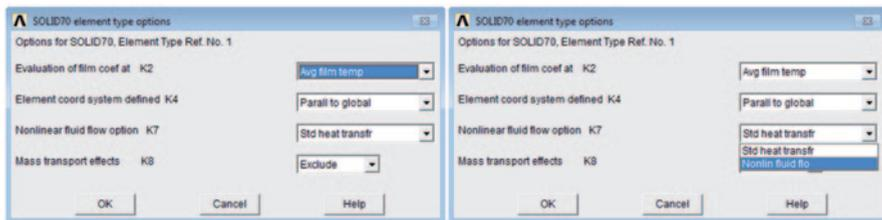

Fig. 4.9 *Keyoptions* for the **SOLID70** element
Another example is shown in Fig. 4.9, in which **KEYOPT (7)** for **SOLID70** (8-noded thermal solid element for 3-D problems) permits the specification of a standard heat transfer or a nonlinear steady-state fluid flow through a porous medium.